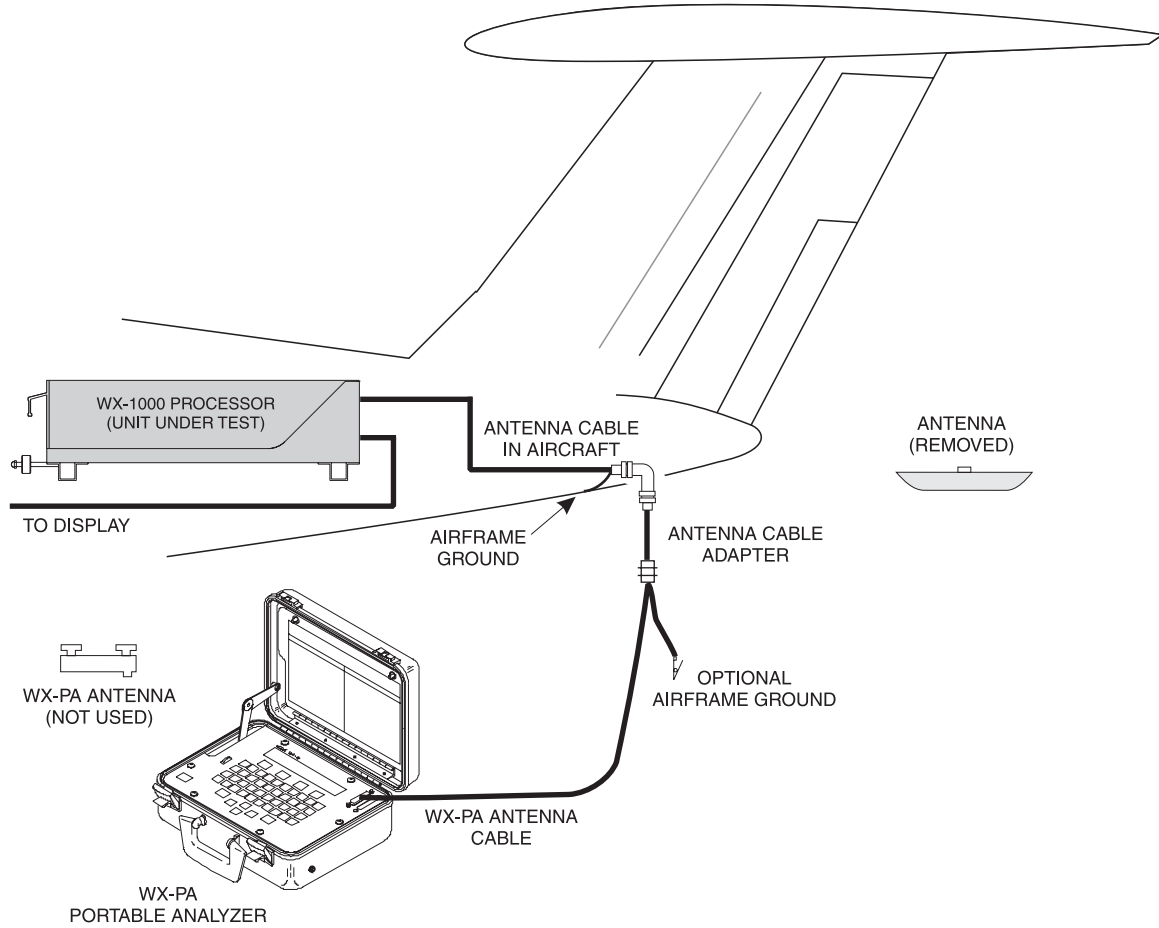

Figure 4-17. WX-1000 Antenna Bypass
9. It may be necessary to bypass the WX-1000 antenna (see figure 4-17), select Test Disable (see paragraph 4.5.4) and drive the processor with the WX-PA unit (refer to the WX-PA Instruction Manual P/N 78-8060-5798-6). If the noise goes away, the problem is noise radiated into the antenna and it may be necessary to relocate the antenna.